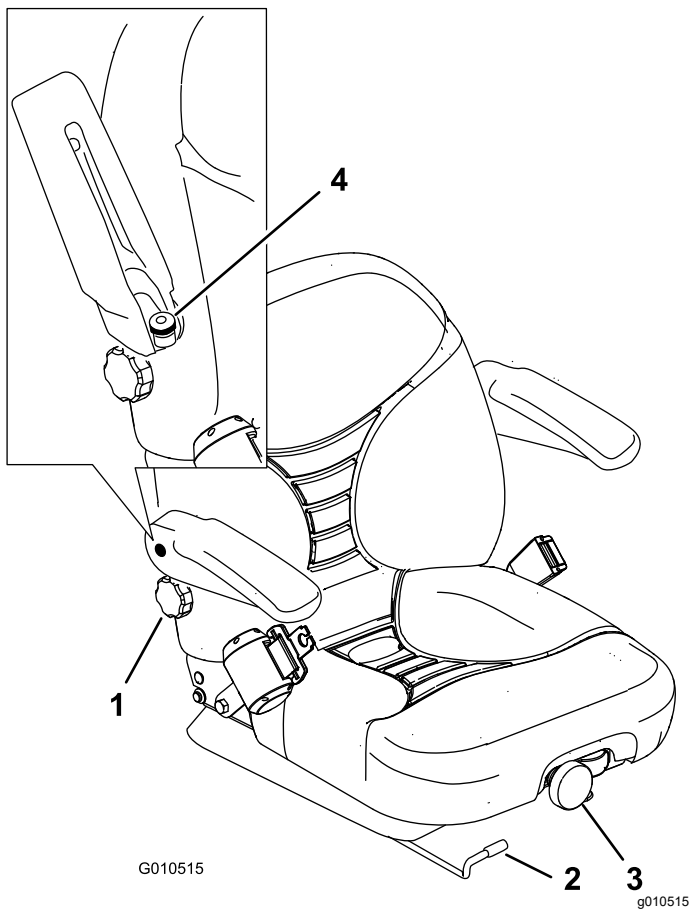

Figure 31
1. To adjust, move the lever sideways to unlock seat (Figure 31).
To adjust it, turn the knob in front either direction to provide the best comfort (Figure 31).
To adjust it, turn the knob, under the right-side armrest, in either direction to provide the best comfort (Figure 31).
Raise the armrest and turn the knob, in either direction, to provide the best comfort (Figure 31).